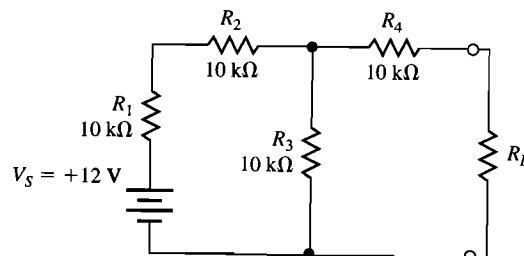

Figure C-6-1
- For the circuit shown in Figure C-6-1, the two resistors that are in series are:
- For the circuit shown in Figure C-6-1, the equivalent Thevenin voltage is:
- For the circuit shown in Figure C-6-1, the equivalent Thevenin resistance is:
11. Assume a $15\text{ k}\Omega$ load resistor is connected to the output terminals of the circuit shown in Figure C-6-1. Compute the voltage and current in the load.